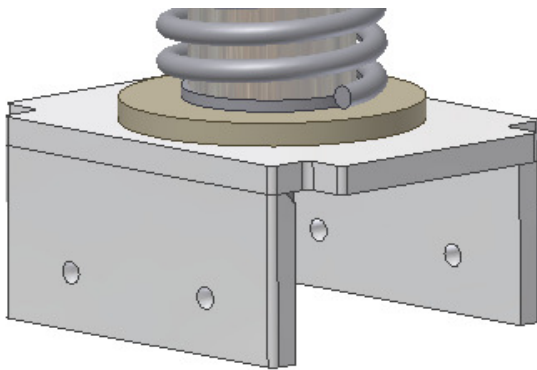

Figure Step 5
Step 5 Extrude the sketch to create the four holes as shown. (Figure Step 5)